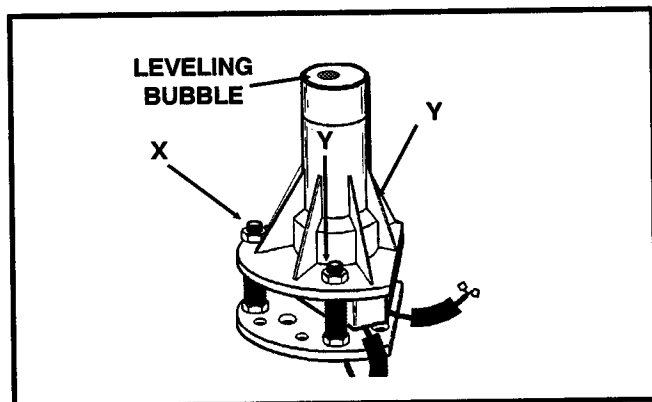

Figure 2-15. Tilt Switch Leveling - Manual Adjustment.
• Manual Adjustment. (See Figure 2-15.)